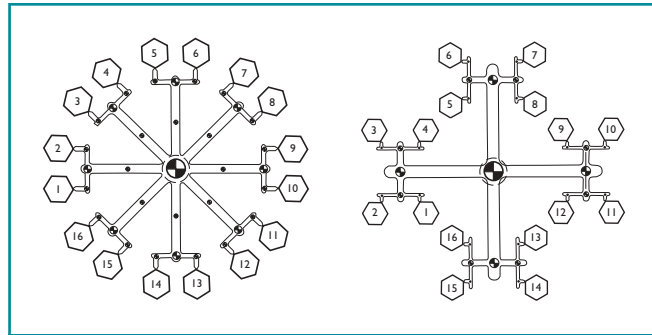

Figure 4. Balanced runner systems.
**Figures 4 and 5** illustrate examples of balanced and unbalanced runner systems.